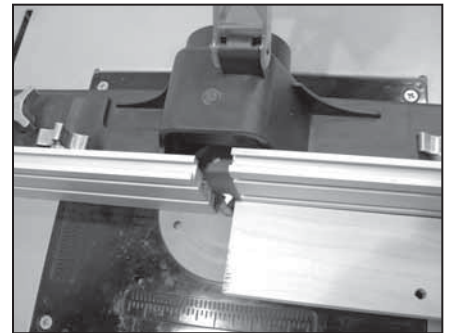

Figure 19
4. Adjust the offset fence to the desired depth of cut and tighten the locking knob. Remember making multiple passes to remove small amounts material will yield a much better finish. This image depicts a maximum cut. See Figure 19.